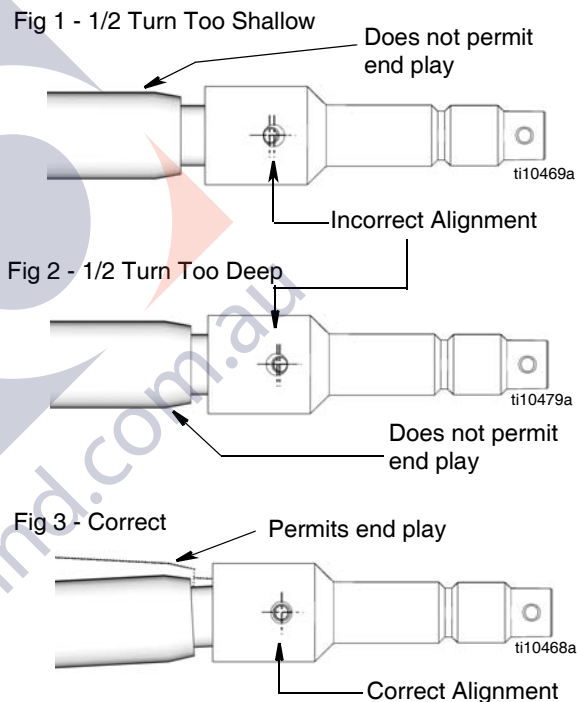

Fig. 21
22. If these connections seem too rigid remove the pin and adjust hole alignment by 1/2 turn in the direction that aligns the through holes as close as possible, axis-to-axis (Fig. 21).